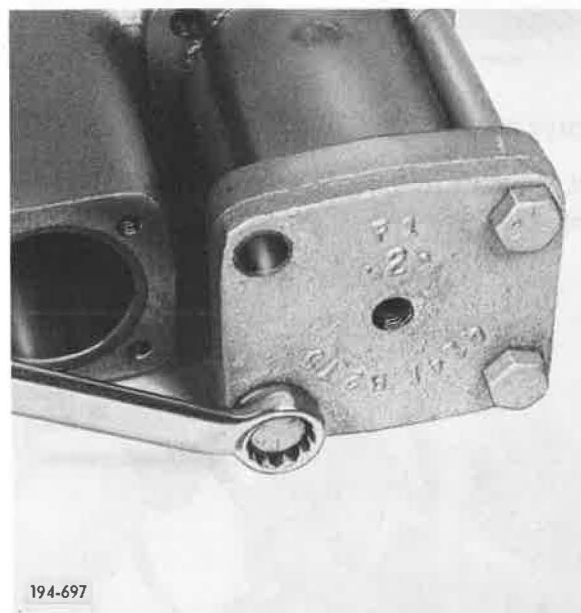

Figure 5-440. Installing Capscrews
15. Install Lo/Direct shift cover capscrews, and tighten to recommended torque. Refer to Torque and Tolerance Table, Item 2. See Figure 5-440.